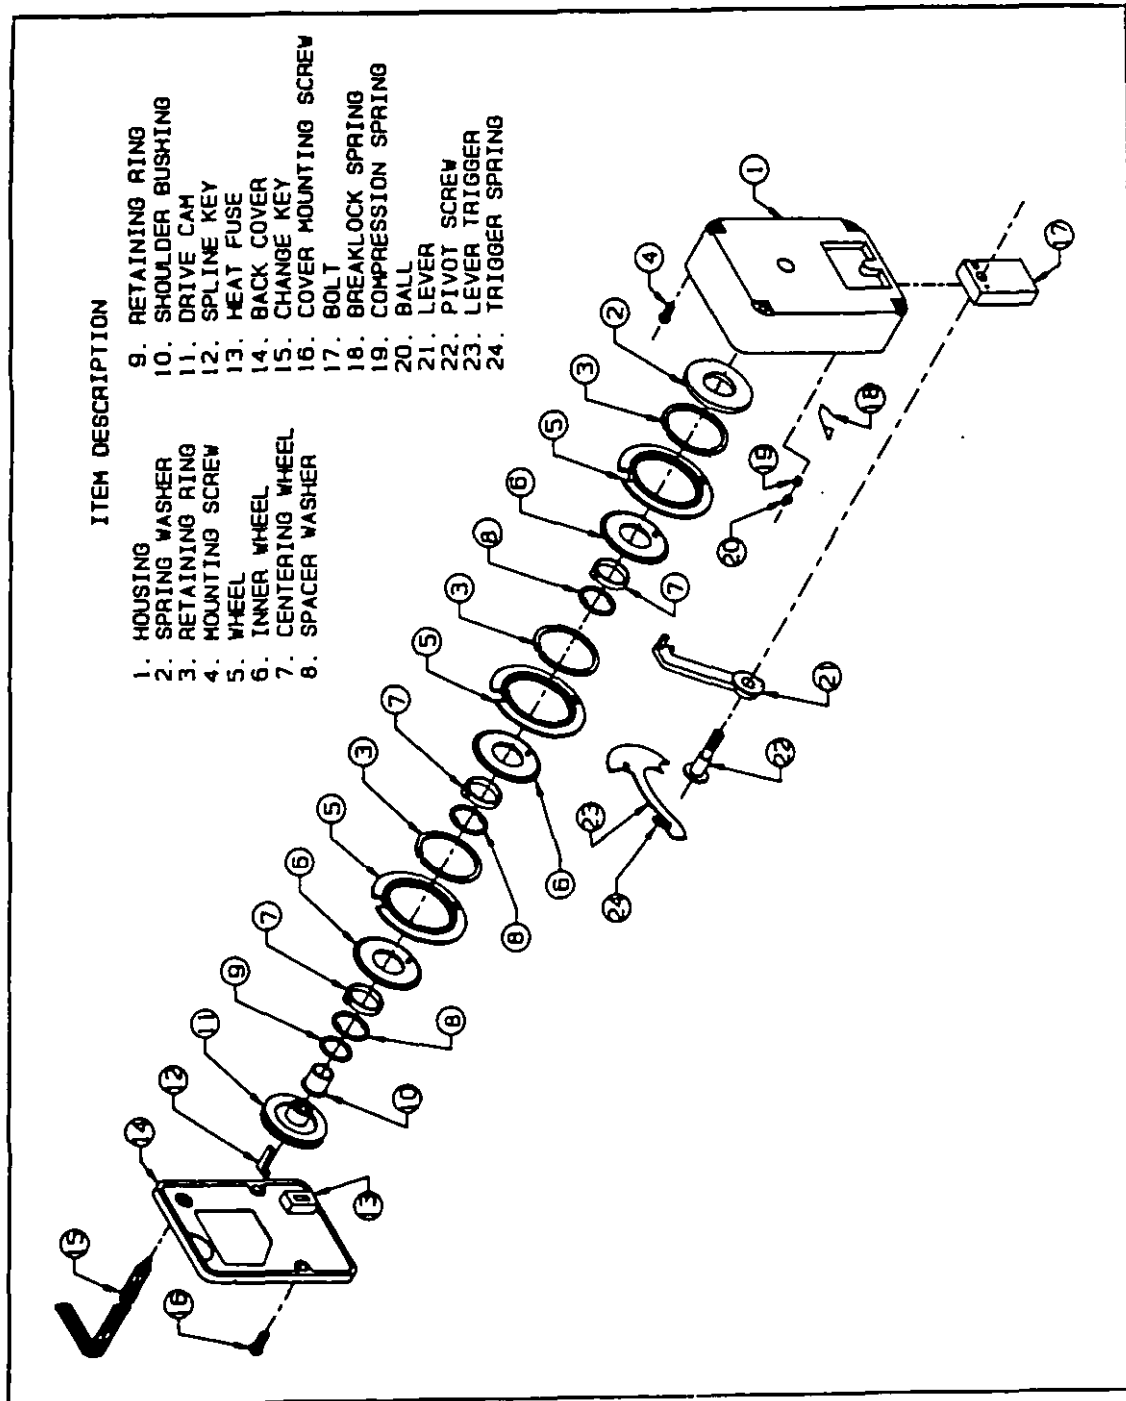

Figure 25
3.4.1.5 Installation Procedure. To install the La Gard 1980-A RL combination lock, proceed as follows (reference Figure 25):
b) Using template, drill and tap four holes in the mounting plate for the lock-mounting screws (1/4-20, item 4). Drill hole in mounting plate for the spindle shaft (0.625-inch (16-mm) diameter).
d) Remove the combination lock Cover Screws (16) and Back Cover (14).
e) Lift off, BUT DO NOT DISCONNECT, the Lever Trigger (23) and Trigger Spring (24).
f) Remove the Drive Cam (11).